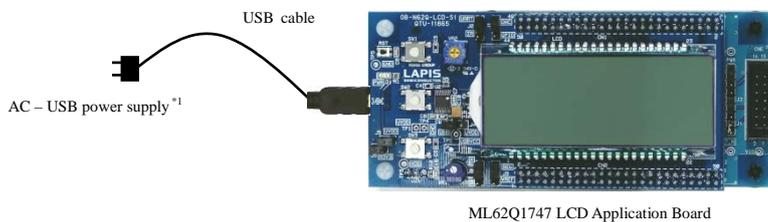

Figure 2 Use in a stand-alone configuration
- 1-1. As shown in figure 1 and figure 2, connect the USB cable to the ML62Q1747 LCD Application Board.